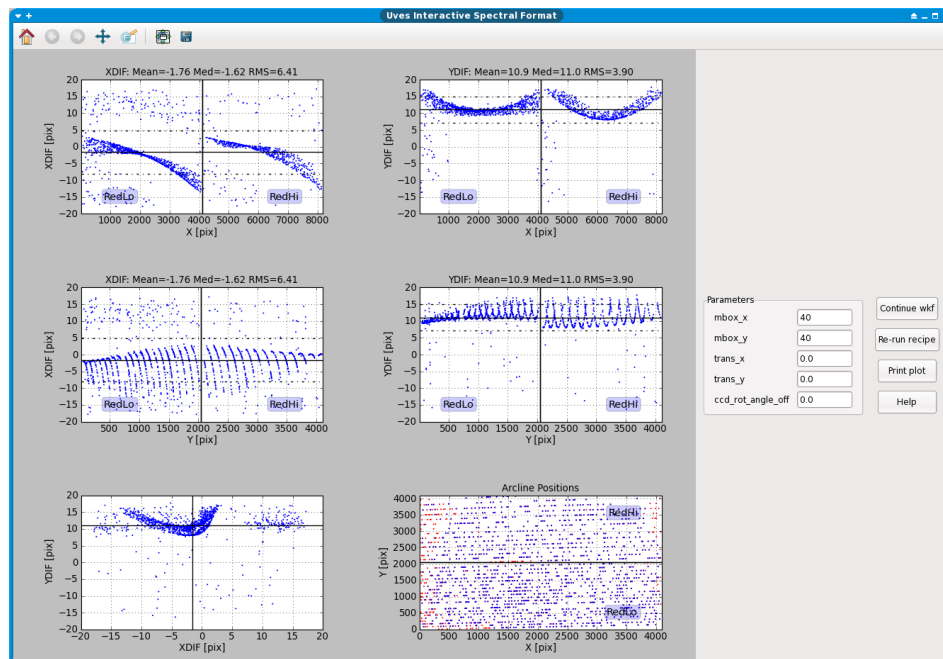

Figure 5.3.2: *The interactive window for the Spectrum Locator actor for the first LoSO in the data supplied with Reflex 1.1.*
5. **`Spectrum Locator`:** During the execution of the `Spectrum Locator` actor, an interactive window will appear as shown in Figure 5.3.2. The interactive window consists of six plots, five pipeline recipe parameters that may be changed, four buttons on the right, and a panel of buttons at the top-left. Help for each of these features may be accessed by leaving the mouse pointer for about one second over the plot/parameter/button for which information is required.